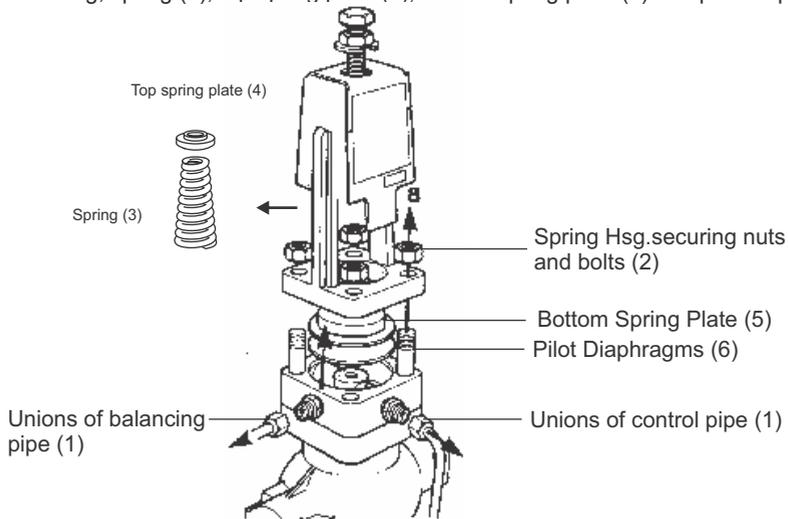

Figure 13: FMPRV41 air
7.6 Procedure to renew the pilot valve assembly for FMPRV41 air: (Refer to fig.13 & 14)